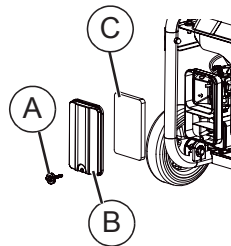

Figure 4-3. Air Filter Assembly
1. See Figure 4-3. Turn knob (A) and remove air filter cover (B).
2. Wash in soapy water. Squeeze filter (C) dry in clean cloth (DO NOT TWIST).
3. Clean air filter cover before re-installing it. **NOTE:** To order a new air filter, contact the nearest authorized service center at +1 (855) 801-0798.